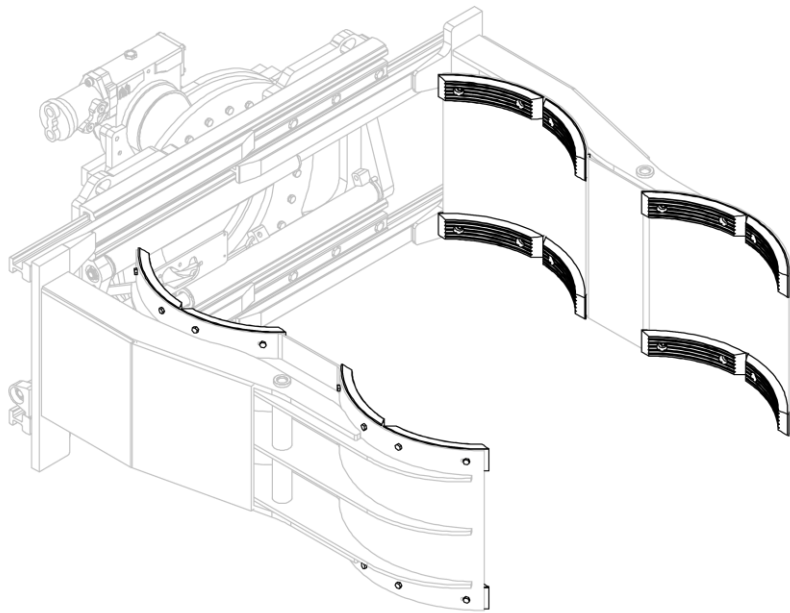
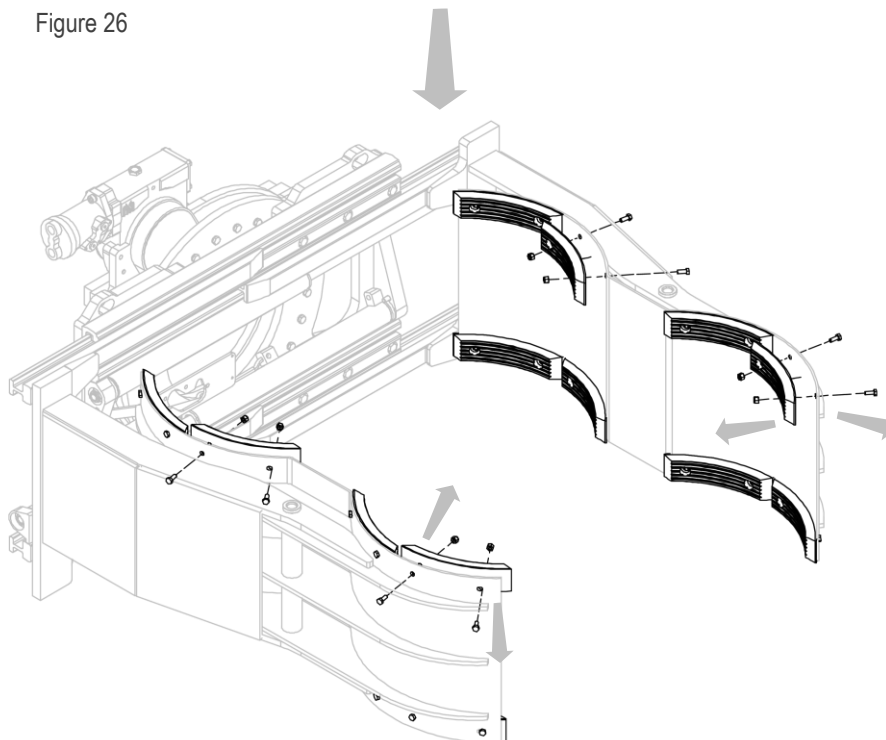

Figure 26
Figure 27
3. Remove the rubber pads after removing the associated nuts and bolts (see *Figure 26* and *Figure 27*).